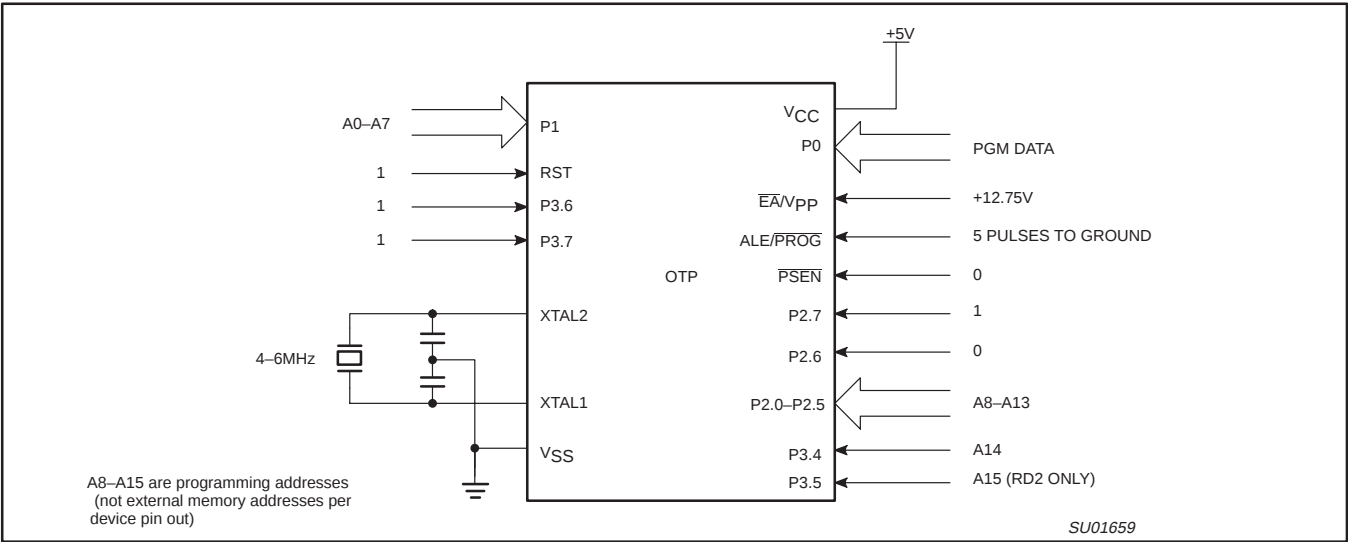

Figure 64. Programming Configuration
* FOR PROGRAMMING CONFIGURATION SEE FIGURE 64.